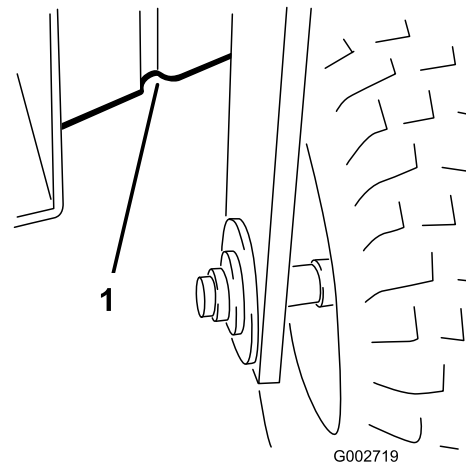

Figure 19
- Front—under the frame behind the front wheel (Figure 19).